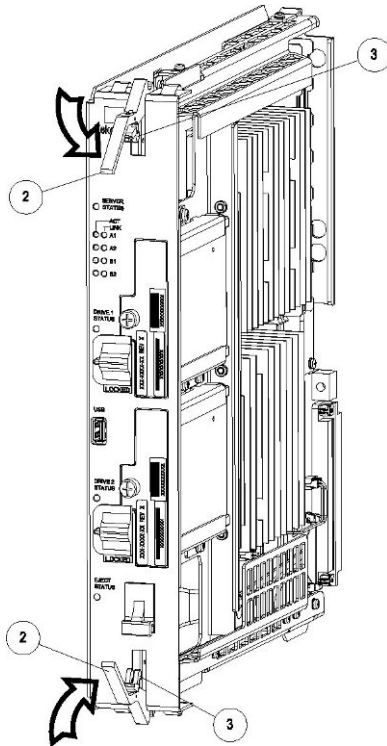

Figure 45: E5-APP-B Card Inject Levers
3. Push in the top and bottom inject/eject clamps (see Figure 45: E5-APP-B Card Inject Levers).